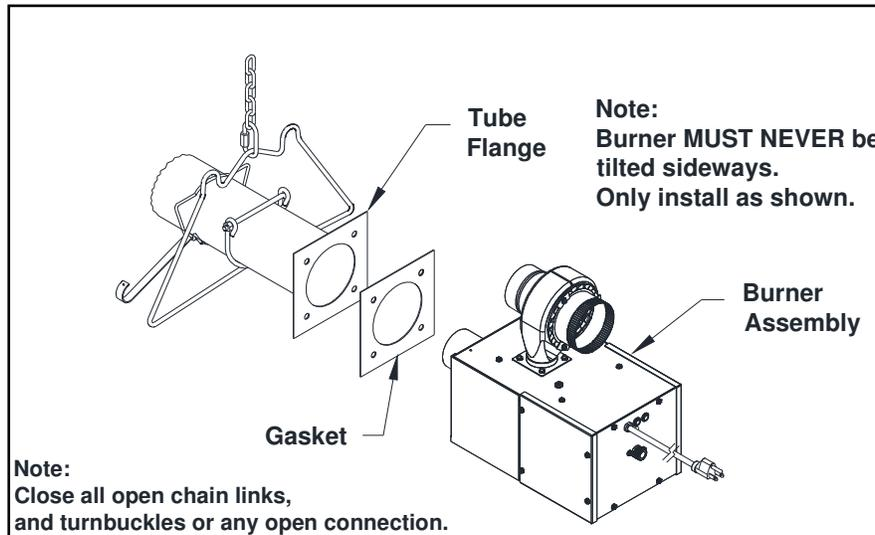

Figure 9: Burner Gasket Installation
- Locate the burner gasket provided and bolt the burner in place on the tube flange with provided hardware. **Burner must never be installed in a tilted position.** The sense electrode of the burner cup should be in the 12 o'clock position (Figure 9).